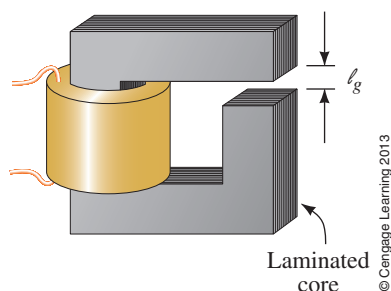

FIGURE 13-10 Iron-core coil with air gap. The gap keeps the core from going into saturation.
To provide greater inductance in smaller spaces, iron cores are sometimes used. Unless the core flux is kept below saturation, however, permeability varies and inductance is not constant. To get relatively constant inductance, an air gap may be used (Figure 13-10). If the gap is wide enough to dominate, coil inductance is approximately
The inductor of Figure 13-10 has 1000 turns, a 5-mm gap, and a cross-sectional area at the gap of $5 \times 10^{-4} \text{ m}^2$. What is its inductance?
2. If you triple the number of turns in the inductor of Figure 13-10, but everything else remains the same, by what factor does the inductance increase?